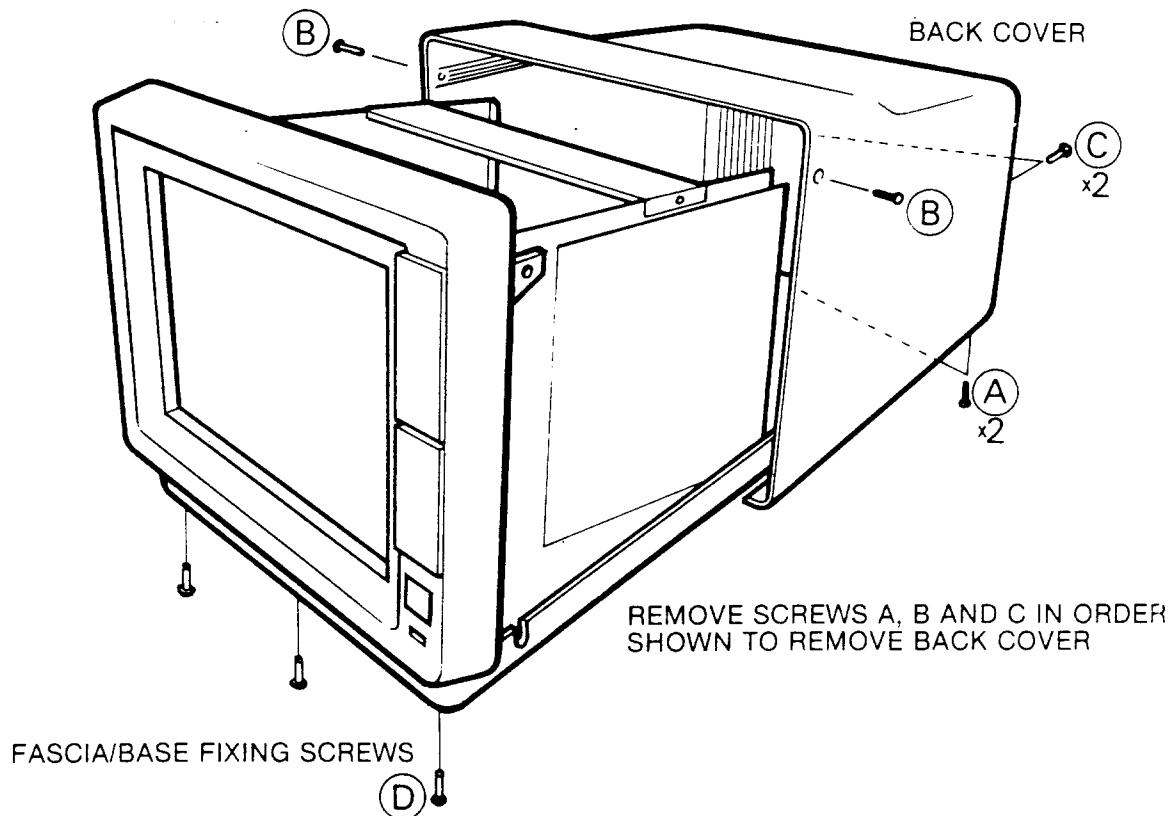

FIG F2 F SERIES FIXING SCREW LOCATIONS
1. To provide service access to the Main Chassis and Drive/Deflection PCB Assembly - refer to Figure F2, F Series: Input Bracket.
- a) Unscrew one turn only - 2 x Fixing Screws (A) located on the bottom inside flange of the Input Bracket.
- b) Detach: 2x Fixing Screws (B) from top ends of Input Bracket securing bracket to chassis.
- a) Unscrew fixing screw locating into the screwed bush at the top left-hand Stabilizer Bracket fixing point, item (7).
- b) Remove the two fixing Screws securing the R/H front of the Chassis Main Frame, item (4) to the Customer Controls Bracket, item (6).
5. Refer to Figure F2, F Series: Cabinet Fixing Screw Locations.
- a) Support the Chassis Main Frame. Remove three fascia/base fixing screws (D).